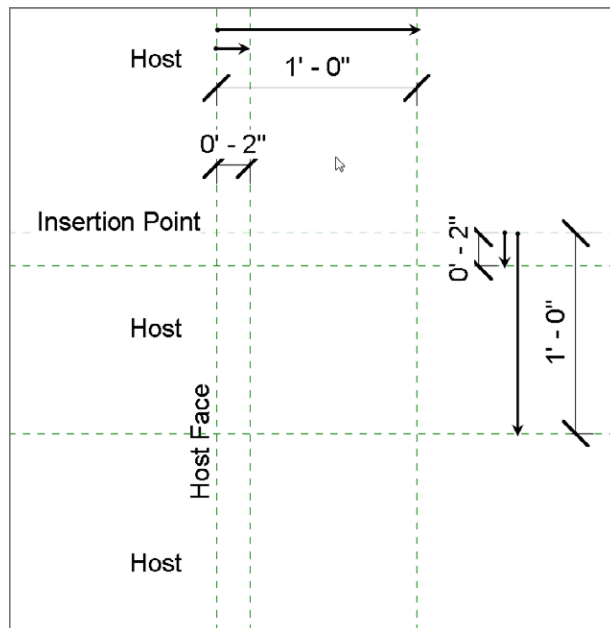

FIGURE 17.5: Adding the dimensions to the reference planes
5. Add a dimension from the top reference plane to the reference plane 2" (50mm) down (see Figure 17.5).